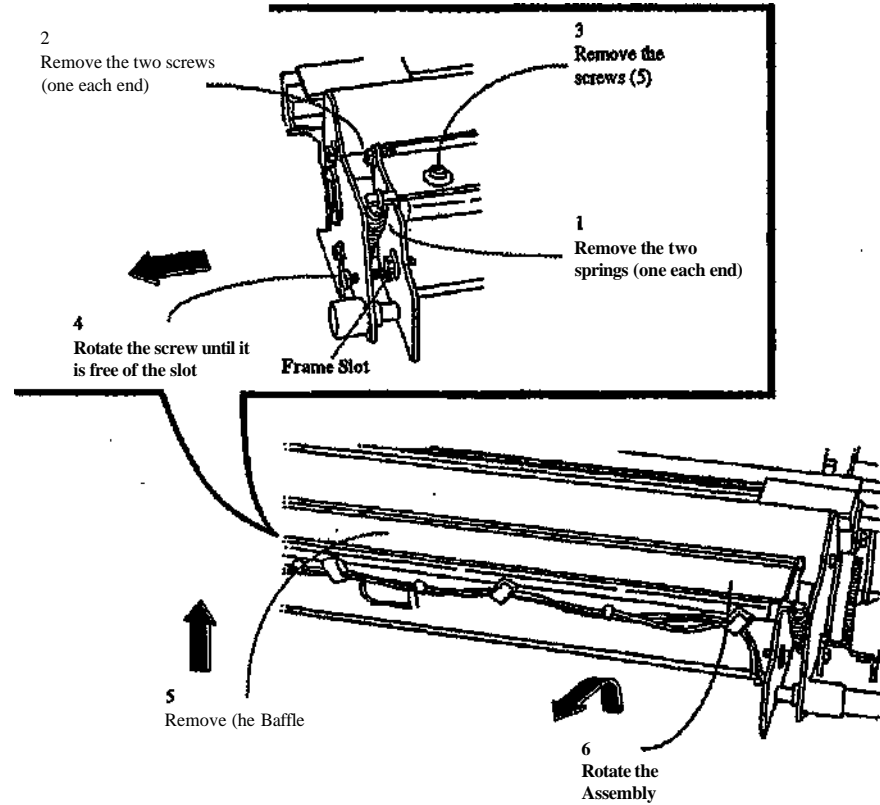

Figure 2. Removing the Baffle
8. (Figure 2): Remove the Baffle.